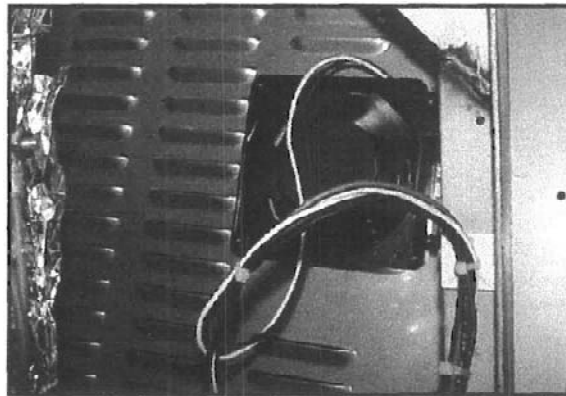

Figure 16B Lower Fan Wiring Disconnect
- 8B. Disconnect the two wires to the lower fan only. Remove the rear body panel on the lower oven section and the rear body panel on the base. Refer to Figure 16B.